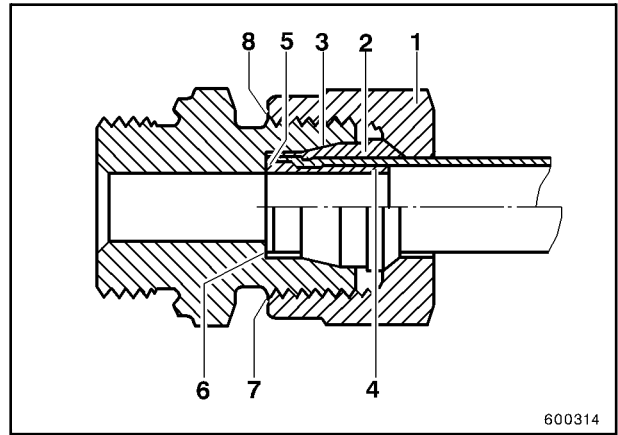

Fig. 1
First push the union nut (1, Fig. 1) and then the clamping ring (2) onto the pipe. The shallow taper (3) of the clamping ring must be towards the end of the pipe. Push insert sleeve (4) fully into the pipe until edge (5) aligns with pipe end.